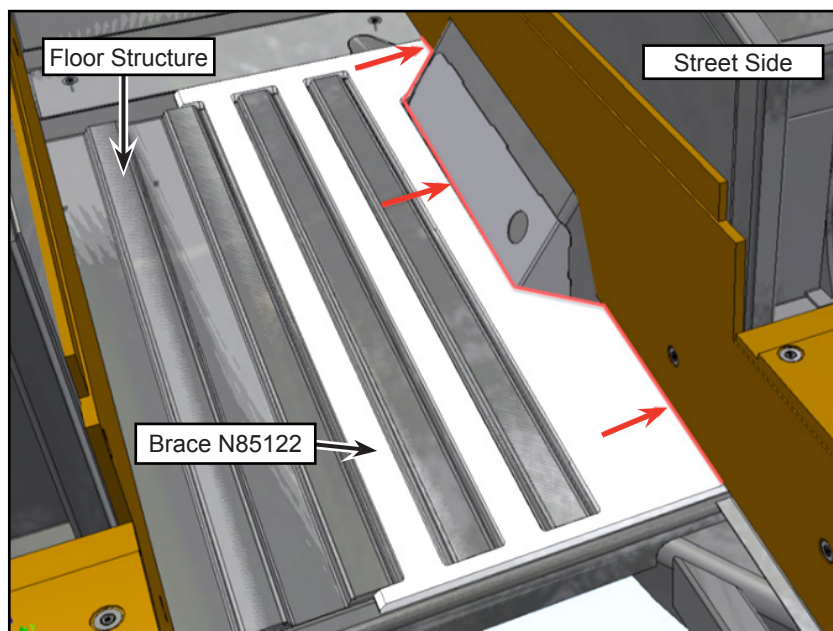

Figure 9 - Typical Position of Brace on Floor Structure
- 2.28. Position the brace N85122 on the floor structure, close to the street side wall as shown (see Figure 9).